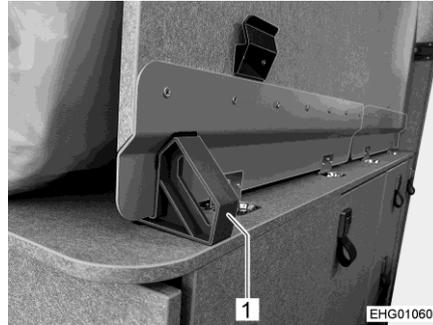

Fig. 55 Safety wedge
- Pull out the safety wedge (Fig. 55,1) to the side.
- Push in the safety wedge (Fig. 55,1).